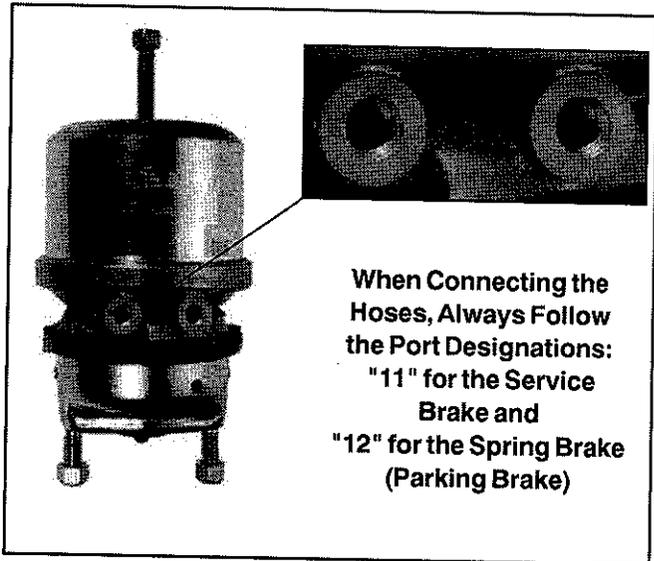
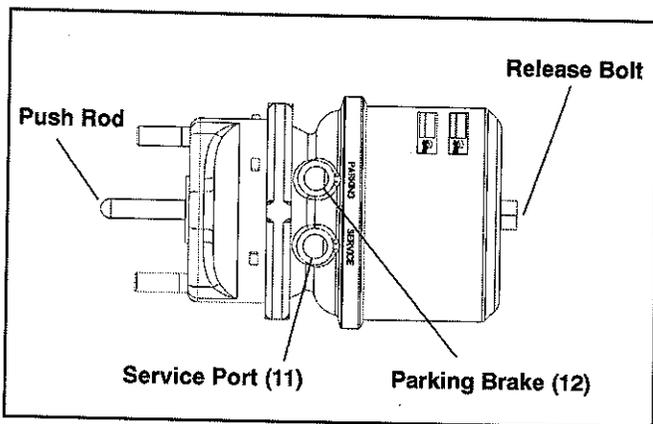

FIGURE 12 - BENDIX® PISTON STYLE SPRING BRAKE PORT CONNECTIONS
FIGURE 11 - SPRING BRAKE SHOWN IN THE UN-CAGED (RELEASED) POSITION.
1. Connect a regulated air line to the parking brake port (12) of the chamber (if not connected previously). See Figure 12.
2. Gradually supply 100 psi of air pressure to the parking brake port (12) of the actuator.
5. The release bolt and push rod should be in the position shown in Figure 11.
6. With hands clear of moving parts, slowly release the air pressure to the parking brake port (12). Be sure to exercise caution to prevent pinching of fingers.